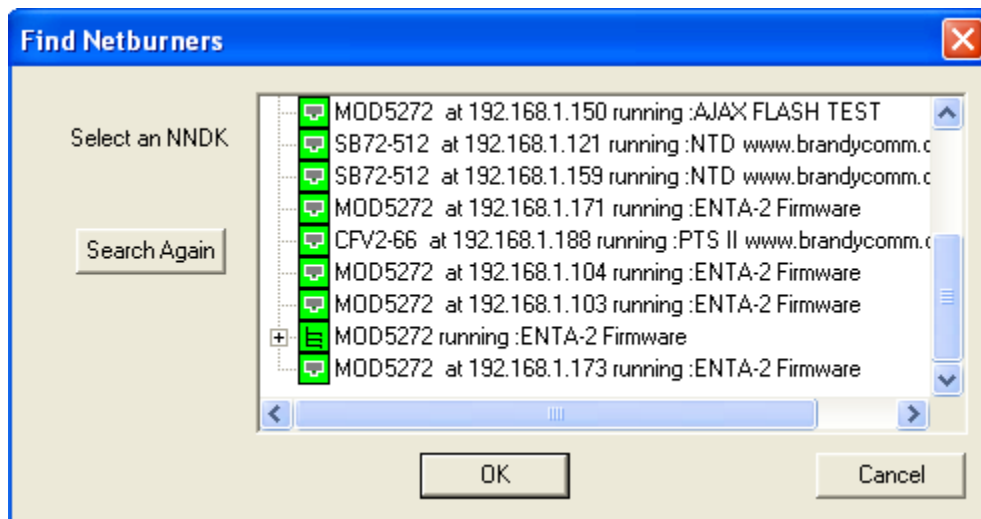

Figure 24 Find NetBurners Screen
2. Enter the IP address of the ENTA in the IP address field. If the user does not know the IP address, press the Find button and Figure 24 will be displayed. Locate and click on the IP address of the unit and click the OK button. The IP address field will be completed for you. If the unit is not on the list, click the Search Again button.